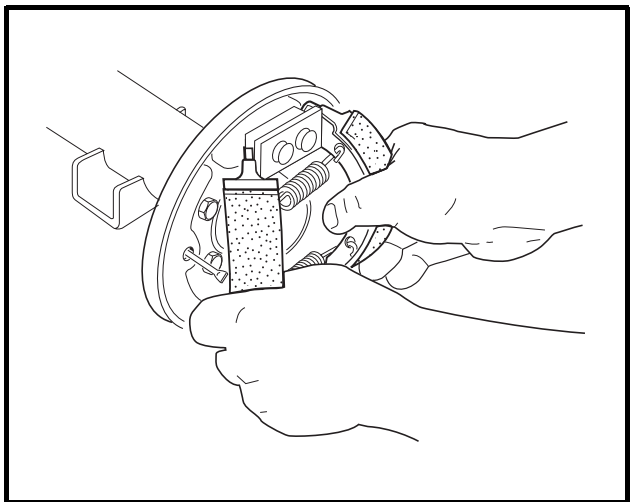

Figure 6-6 Remove Brake Shoes
- Grasp both brake shoes and pull them, together with the springs, out of the brake assembly as shown (**Figure 6-6, Page 6-4**).